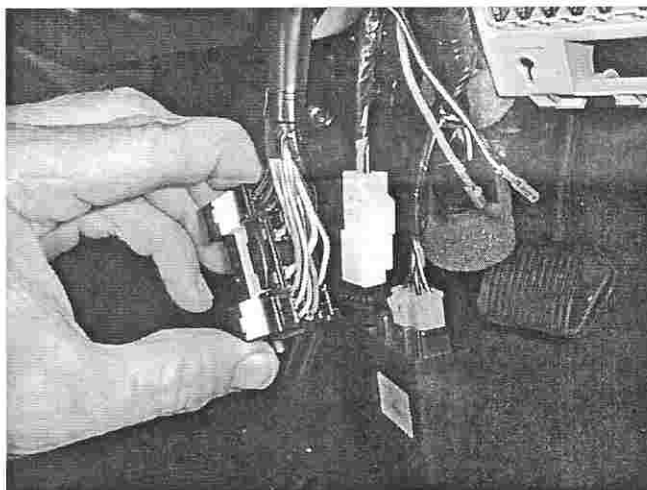

Fig 10. Black 26 pin steering column connector shown unplugged.
16. Locate and disconnect the Black 26 pin steering column connector. Release the latch and pull out this connector. Refer Fig 10.